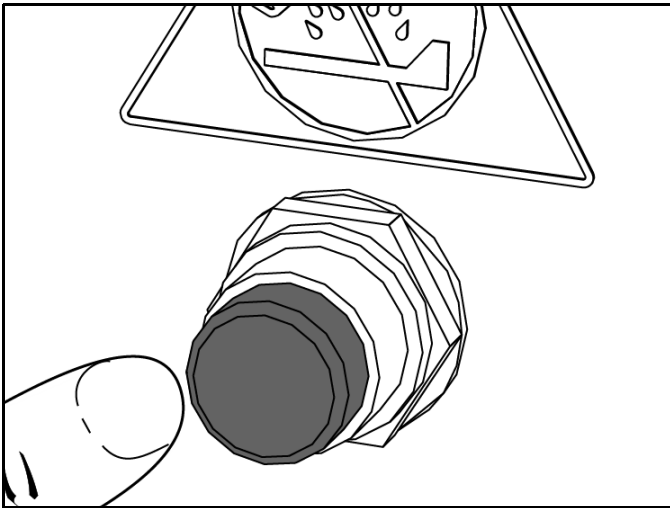

Figure 6-2
1. Double press the green button to place the platen in standby mode. See Figure 6-2